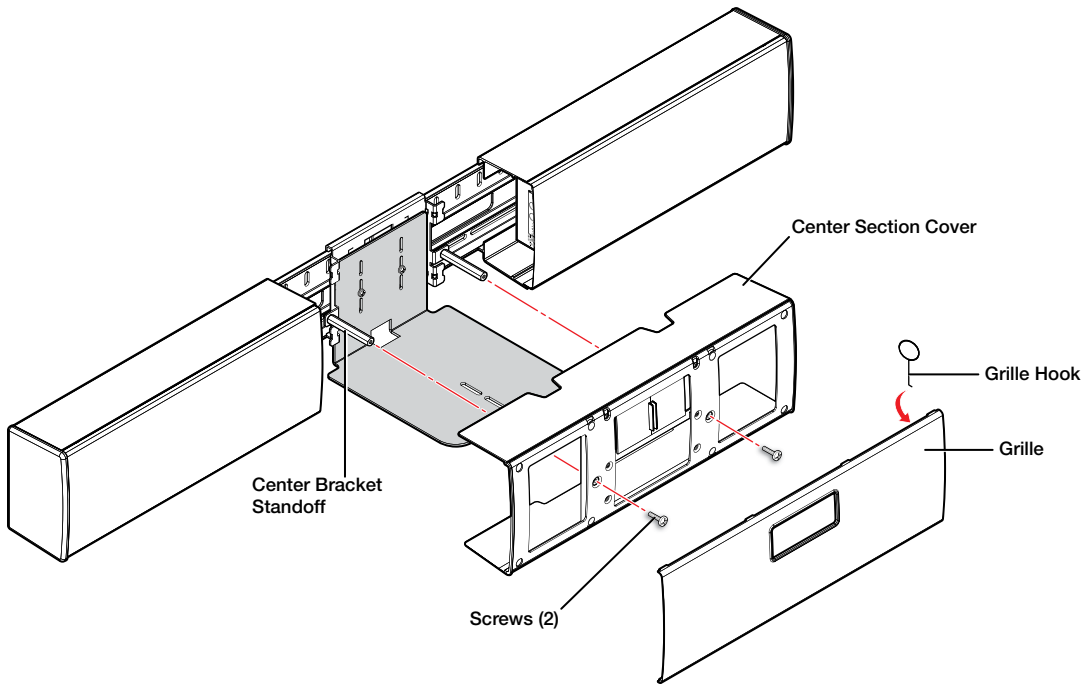

Figure 21. Attaching the Center Section Cover
5. Slide the center section cover over the center bracket and attach the two cover screws to the center bracket standoffs being careful not to overtighten the screws (see figure 21).
6. Attach the grille to the center section cover (see figure 21).
NOTE: Two grille hooks are included to facilitate grille removal while avoiding damage to the grille. It is best to insert the hook along the top or bottom outer edge of the grille, as shown in figure 21, above.